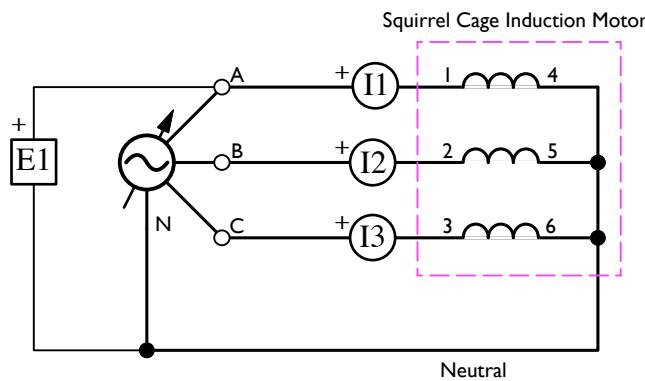

Figure 4.15: Three-Phase Motor – Three Phases
- 25. Remove the belt that couples the three-phase squirrel cage induction motor to the dynamometer, and construct the circuit shown in Figure 4.15.